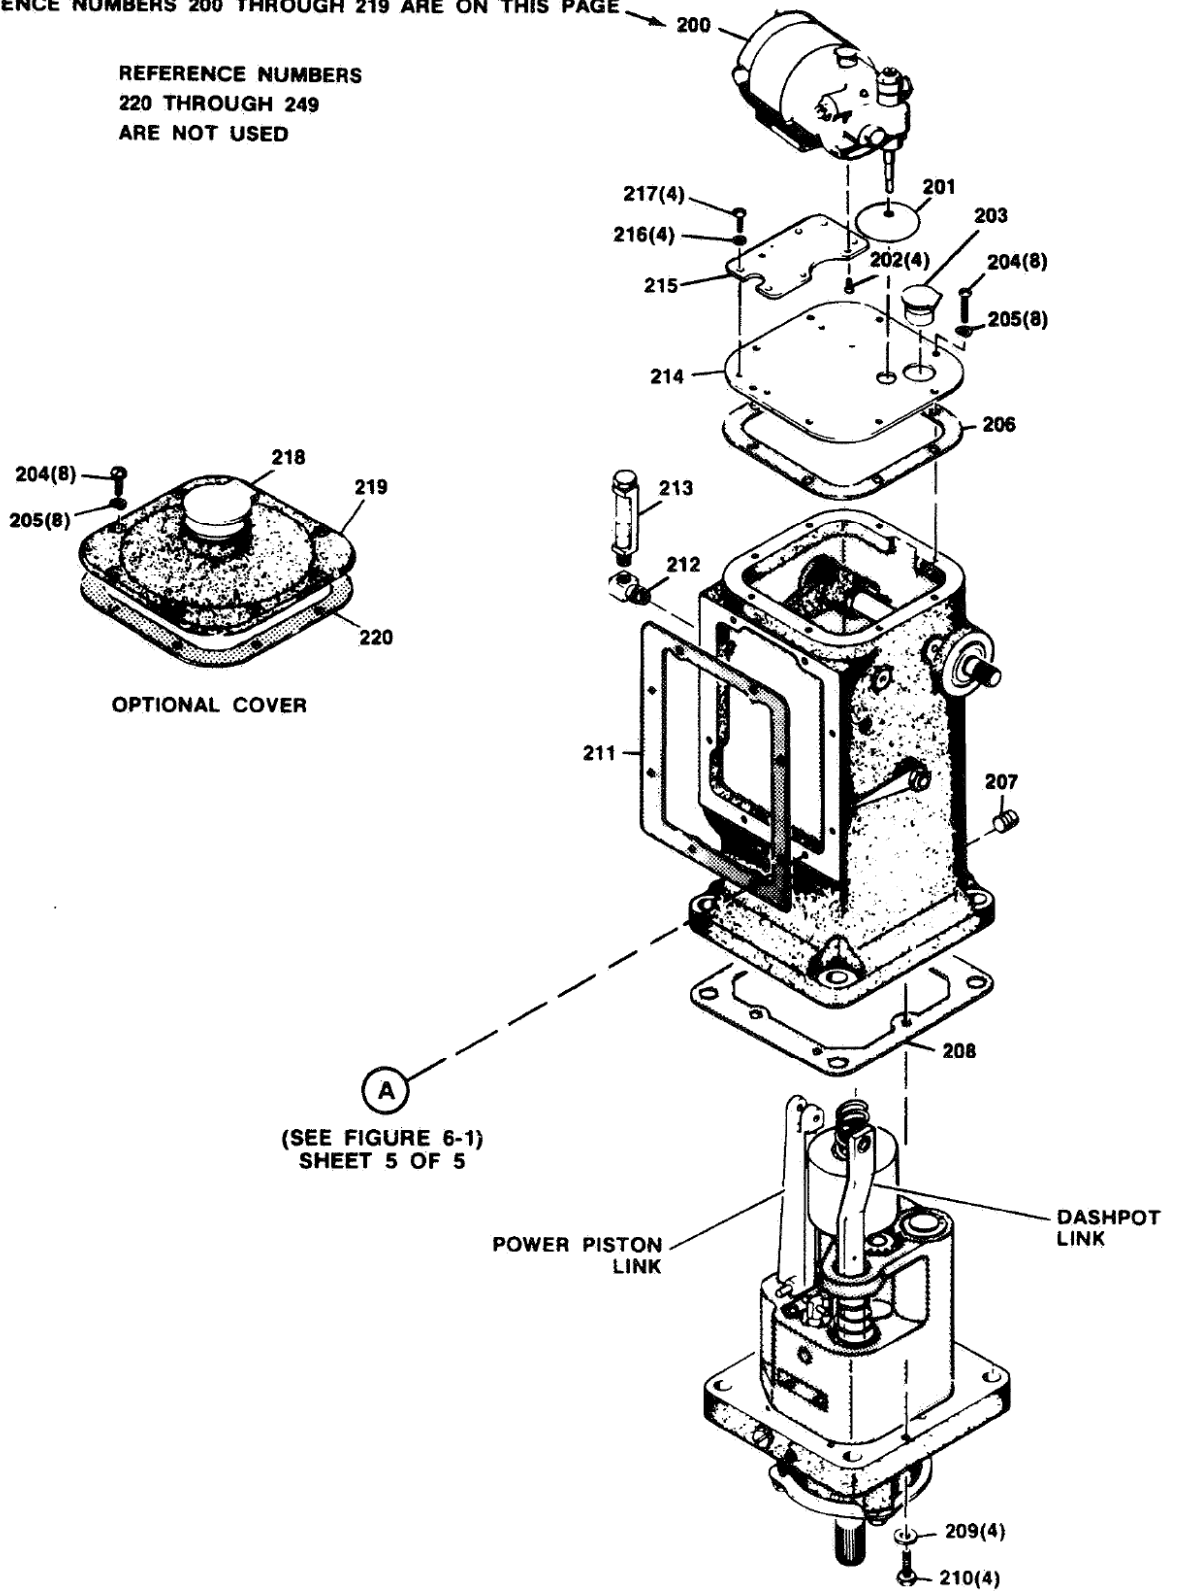

Figure 6-1d. Parts Illustration for the UG Dial Governor
**Parts List for Figure 6-1d**